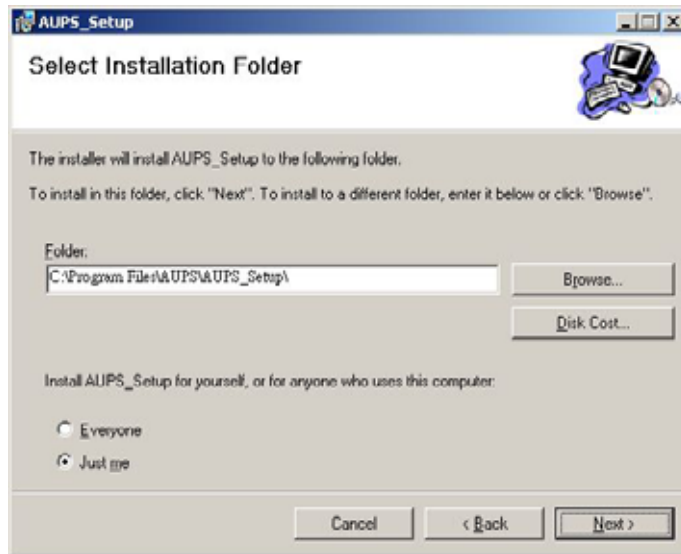

Figure 8-2: Select Installation Folder
Step 3: The Select Installation Folder window appears (**Figure 8-2**). Select a folder to install the application.